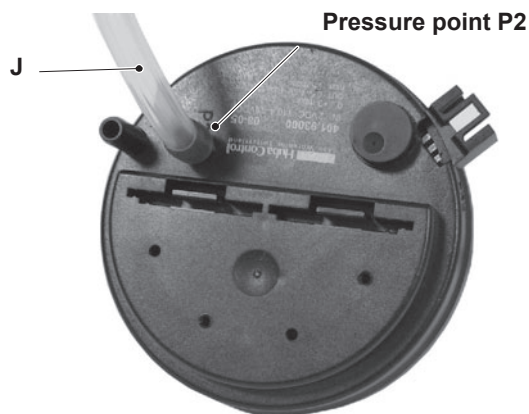

Figure 17.5
**Warning:** to correctly connect the Air pressure sensor, refer to Figure 17.5.